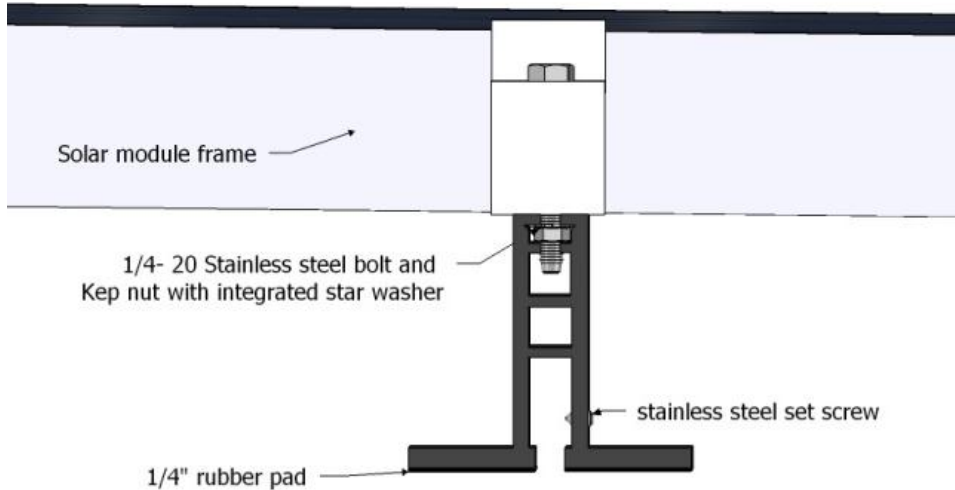
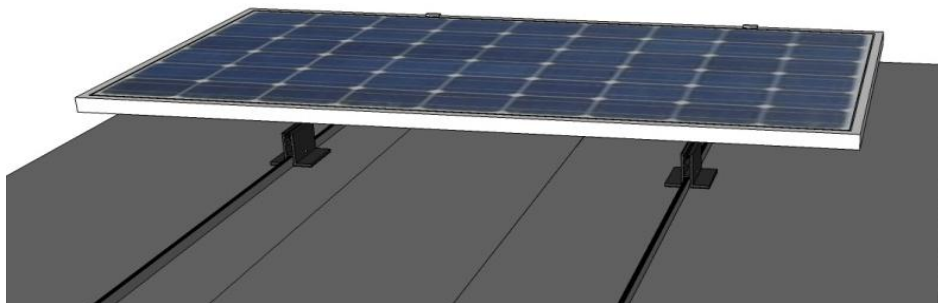

Fig 1
Fig 5
3. Install module firmly up against end-clamps (fig 5). Tighten end-clamps against module frame and then tighten upper flange nuts against mounting feet to stabilize the end-clamp against upper end of mounting feet (figs 1, 2).